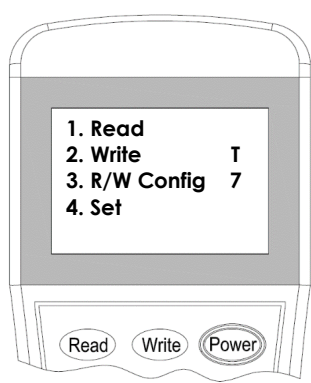

Figure 5
2. Switch-on the programmer, then press button **"Write"** or number **"2"** to enter Write Address mode (Figure 5).